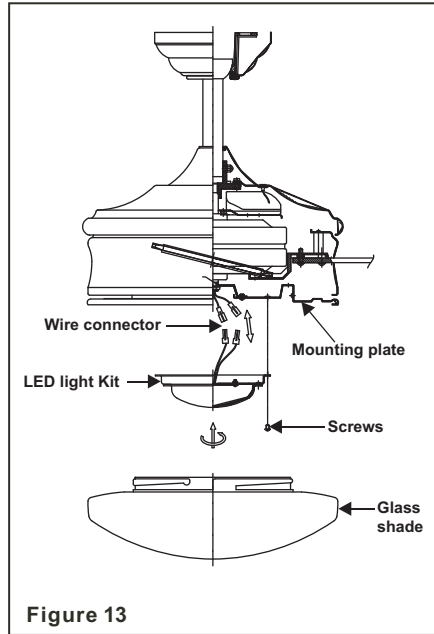

Figure 13
**Step 1.** Remove the 1 of 3 screws from the posts of the mounting plate and keep it for future use. Loosen the other 2 screws. (Do not remove) (Fig. 13)
**Step 3.** Place the key holes in the LED light kit over the two screws previously loosened from the mounting plate. Turn the LED light kit until the LED light kit locks in place at the narrow section of the key holes. (Fig. 13)
**Step 4.** Securely tighten the two light kit mounting screws previously loosened and the one previously removed. (Fig. 13)
**Step 5.** Raise glass shade up against the LED light kit, and secure it to fan by turning glass clockwise until snug. DO NOT OVERTIGHTEN. (Fig. 13)